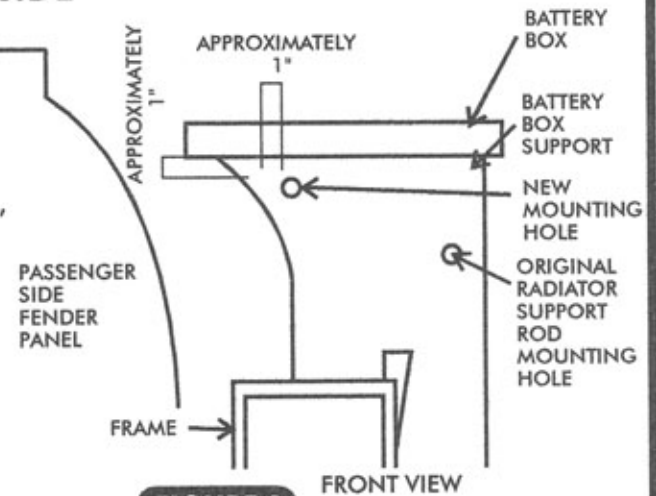

FIGURE 1
- DRILL A 1 1/32" INCH HOLE IN THE BATTERY BOX SUPPORT AND SECURE WITH THE SUPPLIED 5/16"NC x 1" BOLT AND LOCKNUT. THE HOLE WILL BE APPROXIMATELY ONE INCH IN FROM THE PASSENGER EDGE OF THE BATTERY BOX SUPPORT AND ONE INCH DOWN. SEE FIGURE 1.